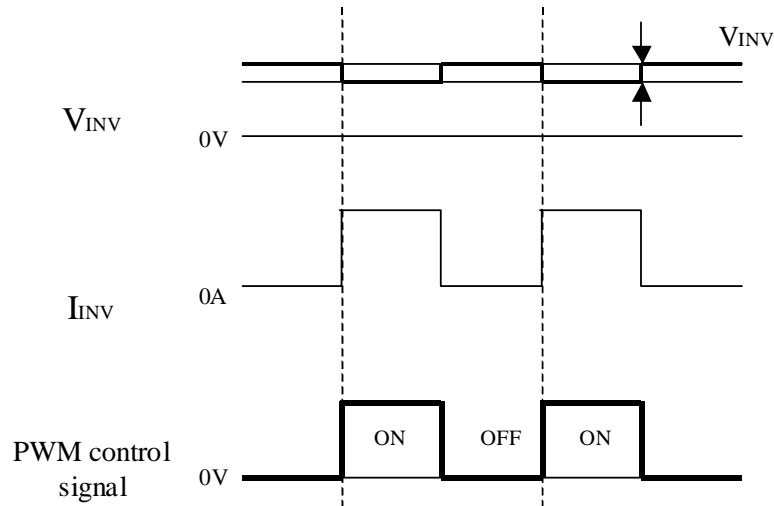

Fig.4 Brightness control voltage.
- c) Brightness control voltage is switched for "ON" and "OFF", as shown in Fig.4. Voltage difference generated by this switching, V_{INV} , may affect a sound output, etc. when the power supply is shared between the inverter and its surrounding circuit. So, separate the power supply of the inverter circuit with the one of its surrounding circuit.